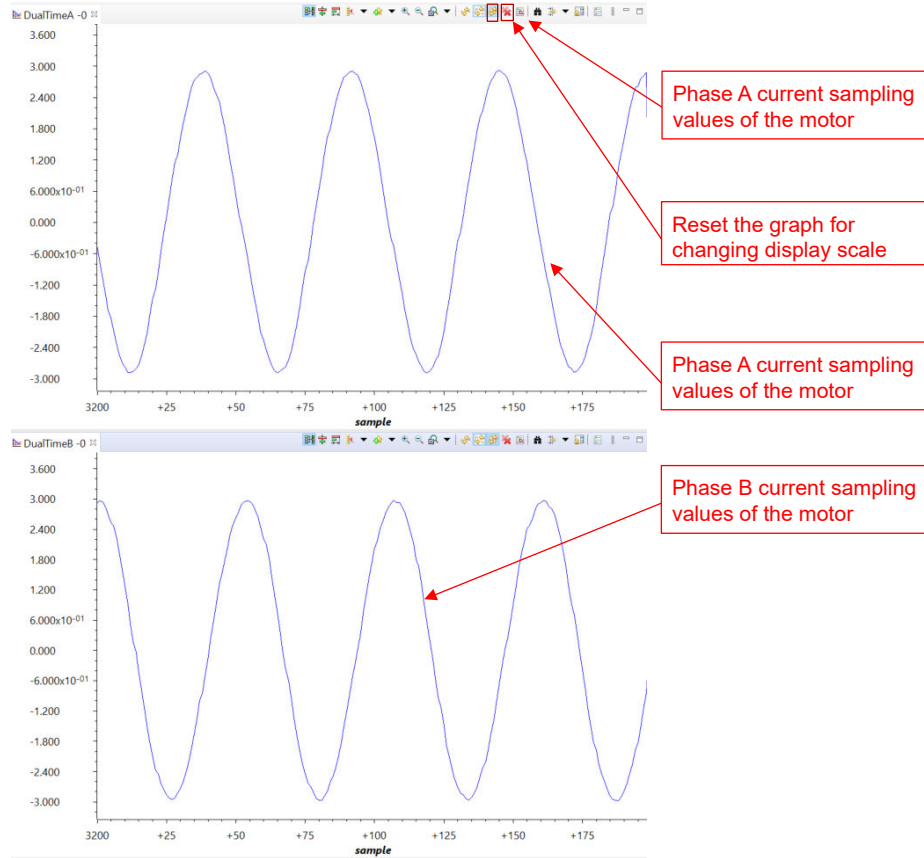

Figure 2-34. Build Level 2: Motor Phase Current Waveforms with Graph Tool
- a. Configuring DATALOG module four inputs as the following codes. The phase current sampling signals waveform on graph tool as shown in Figure 2-34.
Use Datalog with Graph Tool to monitor three phase sensing current of the motor as shown in Figure 2-34.